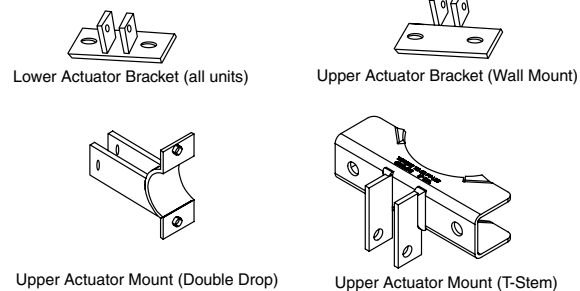

Figure 4
- ① Locate appropriate Actuator Brackets (see Figure 4), and attach to specific backstop frame.
- ② Bolt Electric Actuator to Upper Actuator Bracket.
- ③ Attach Actuator Tube to Lower Actuator Bracket.
- ④ Wire according to wiring diagram.